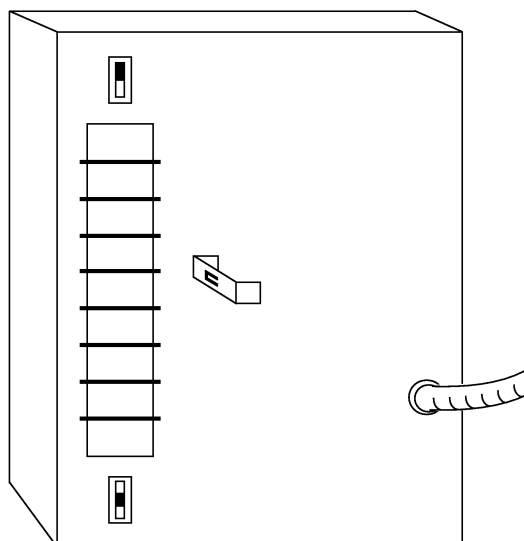

Figure 2-1 *Hold-in Latch Installation*
- Remove the 8050's mounting ears and store or discard both the ears and the screws. Remove the screw from the center of the rear panel and use it to install the hold-in latch provided, as shown in Figure 2-1. Then, using the sheet metal projections along the top and bottom to engage the card guides, slide the 8050 into the shelf until it snaps into place.